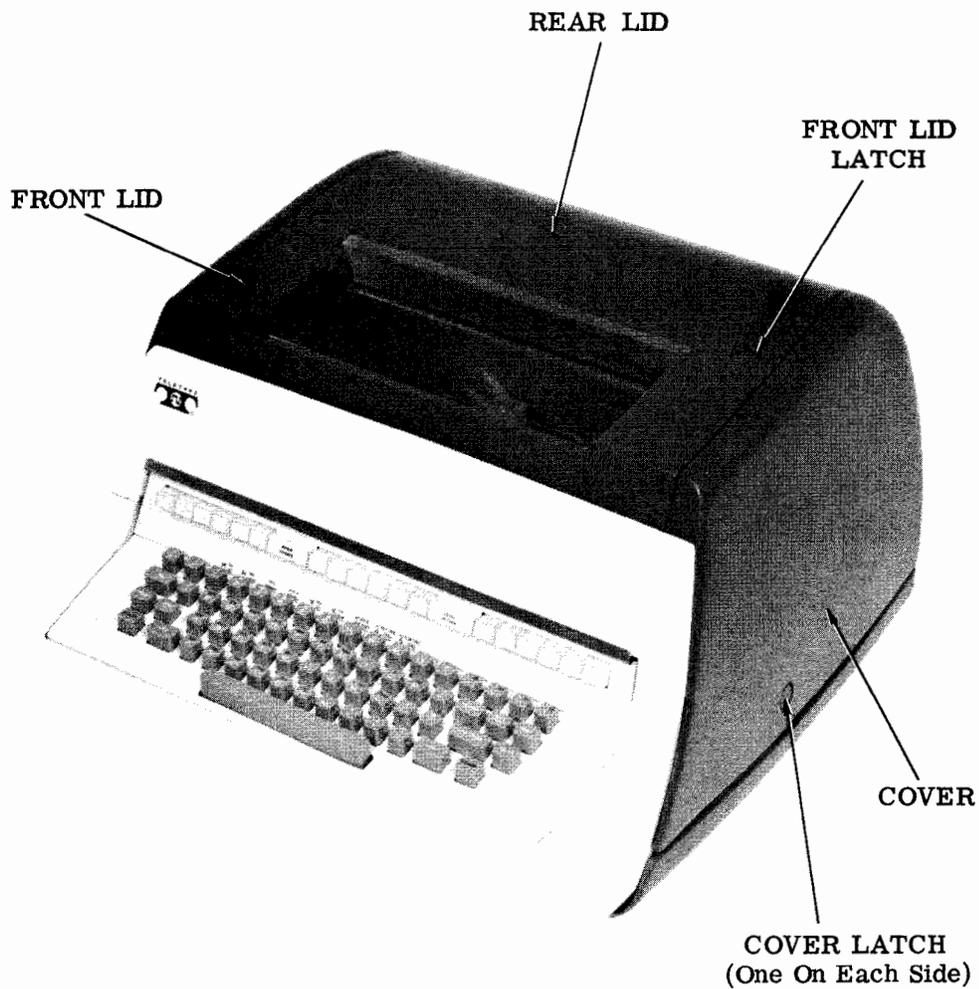

Figure 5 - Keyboard and Cover Assembly
2.07 Unpack the keyboard and cover assembly which contains the reset mechanism, base, and motor, by opening the top and one side of the carton (Figure 5). Remove all packing materials and slide the assembly out.